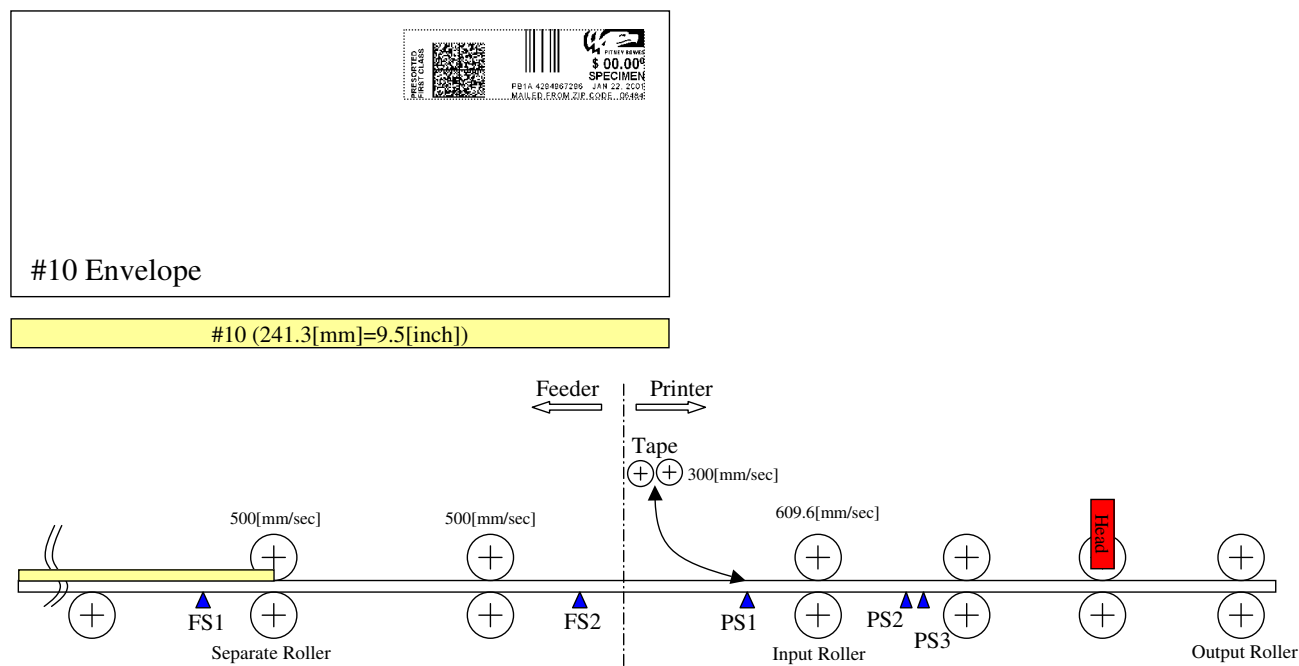

Figure 3-10 DM300c/DM400c Transport Layout
**Sensor Inputs.** The transport is equipped with five sensors in the case of the DM400c, and three in the case of the mailing machine. See Figure 3-10 below for a diagram of the transport layout.